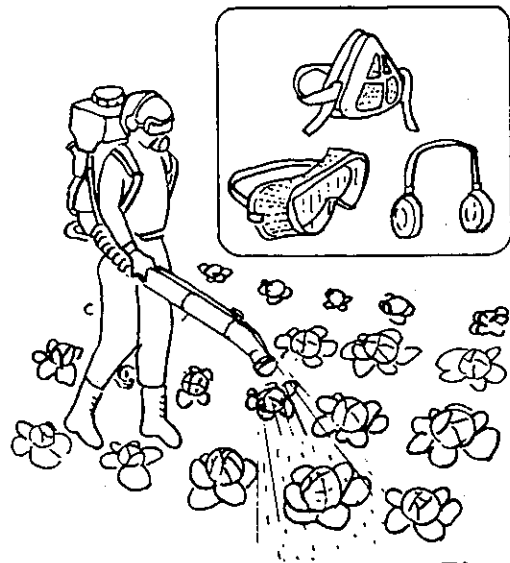

Figure 2
3. OPERATOR SHOULD WEAR CHEMICAL RESISTING WORK CLOTHES WHICH SNUGGLY FIT HIM WHEN OPERATING MACHINE. WEAR PROPER MASK AND EYE PROTECTOR OFFICIALLY APPROVED, INSTEAD OF MAKE SHIFT TOWEL OR THE LIKE. (FIGURE 2)